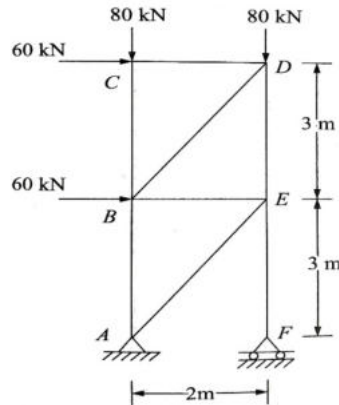

Figure 4.
5. Determine the forces in all the members of the truss shown in figure 4 and sketch the member forces diagram. [14M]